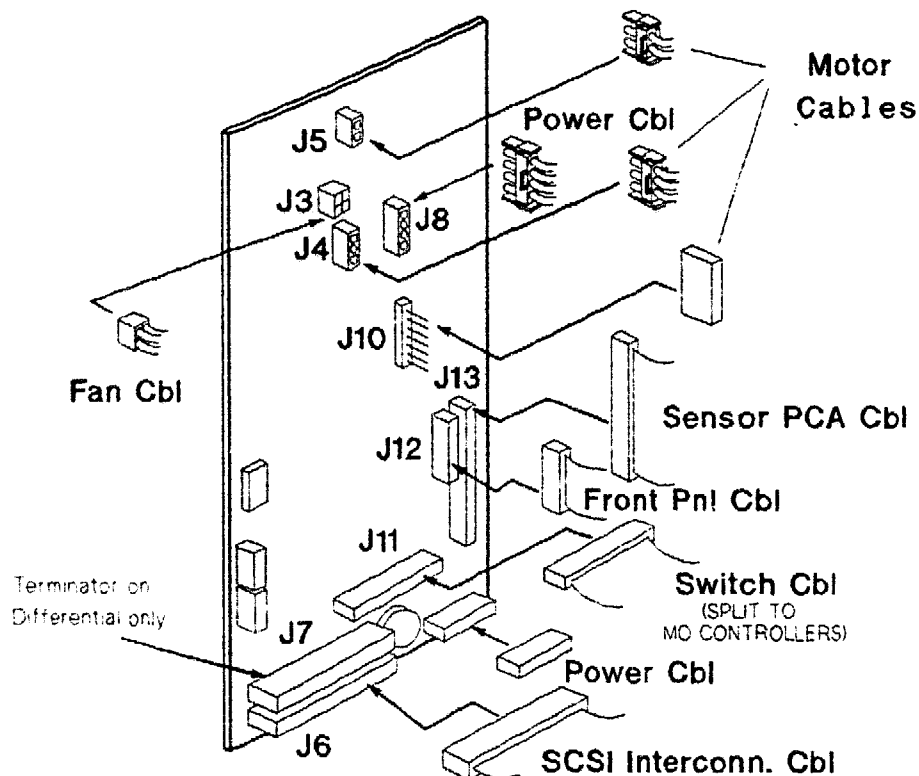

Figure 8-59. Autochanger Controller PCA Cable Connections
9. Re-connect all the cables to the Autochanger Controller PCA. The cables are shown in Figure 8-59.